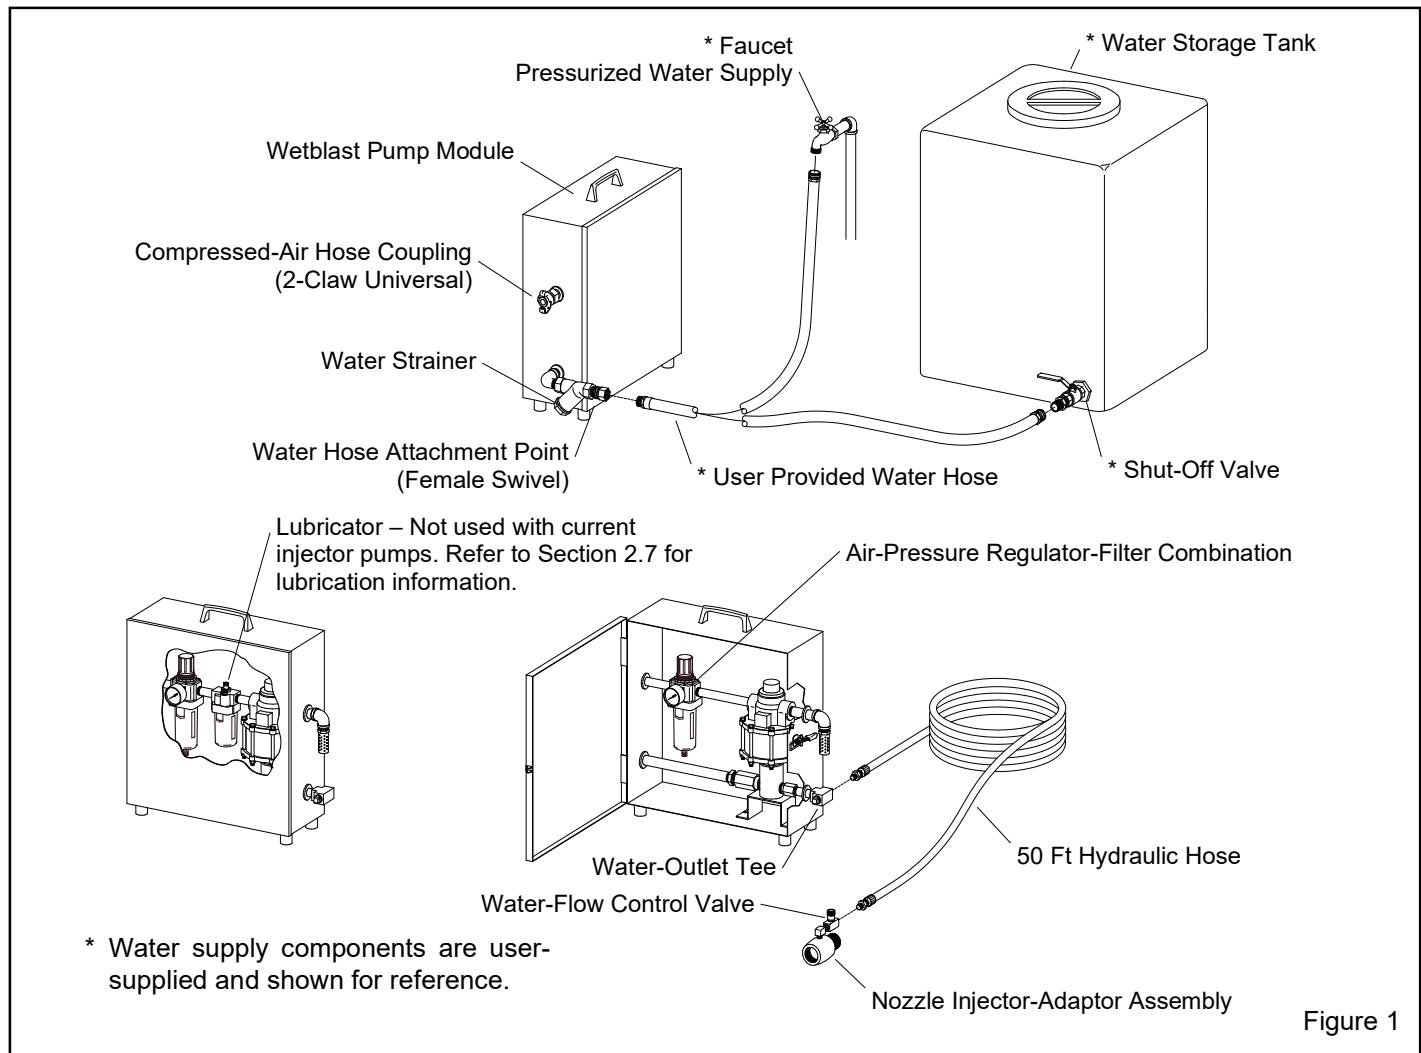

Figure 1
1.4.1 Components of the Wetblast Injector System with typical water set-ups are shown in Figure 1, and include: